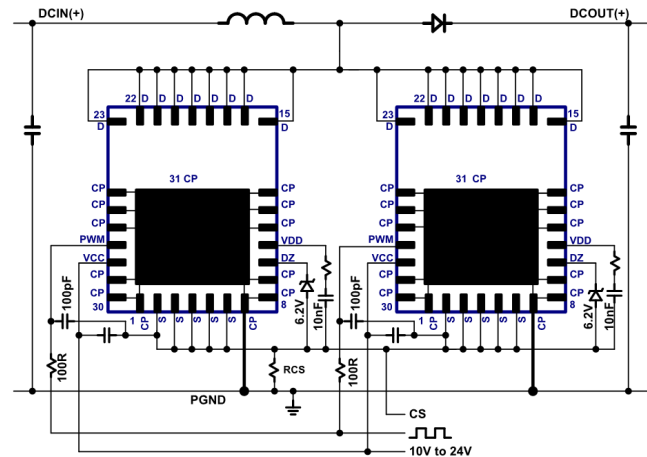

Fig. 25. Boost schematic using two parallel ICs
For some applications it is desirable to parallel ICs in order to reduce conduction losses and temperatures. Two NV6125 ICs can be connected in parallel in a PFC boost application working in boundary-conduction mode (BCM) only. The parallel configuration for two NV6125 ICs is shown in Fig. 25. The paired pins that are connected together include the drain pins (D), the source pins (S), the V_{CC} pins, the PWM pins, and the D_Z . A single D_Z diode can be shared by both ICs. The V_{DD} pins are not connected together and require separate V_{DD} supply capacitors (C_{VDD1} , C_{VDD2}) and separate turn-on current set resistors (R_{DD1} , R_{DD2}). Each IC should have its own local V_{CC} supply filter capacitor (C_{VCC1} , C_{VCC2}). The PWM pins can have a single filter resistor (R_{PWM}) but separate filter capacitors (C_{PWM1} , C_{PWM2}) should be placed at the PWM pin of each IC. When designing the PCB layout for the two paralleled ICs, the drain and source connections should be made as symmetrical as possible to avoid any parasitic inductance or capacitance mismatch.